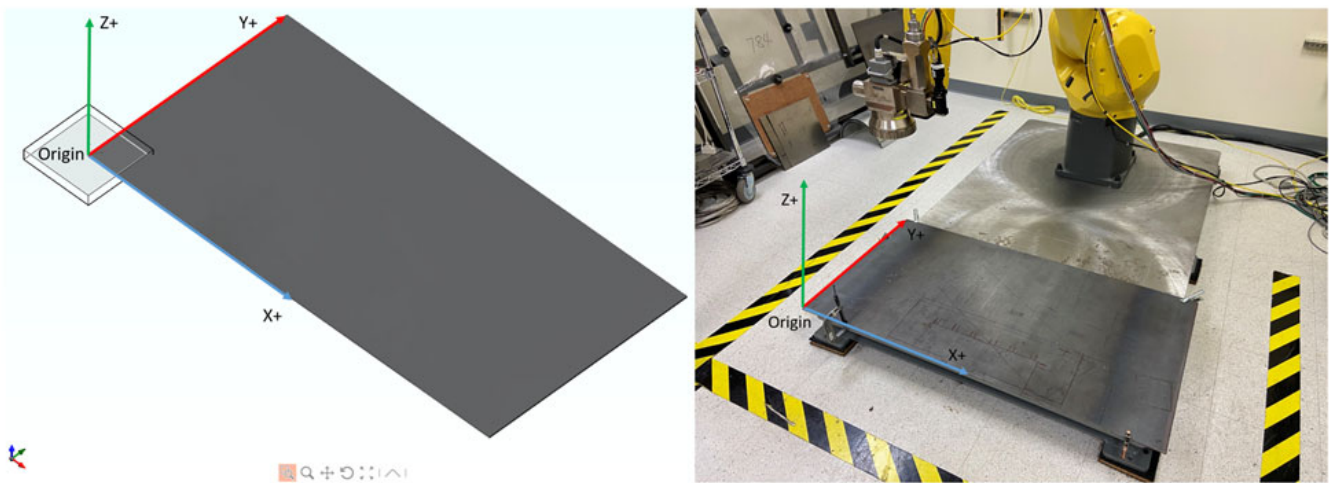

Figure 279: IPGScan and Real World Calibration
- For this demonstration, the IPGScan world was calibrated according to a 1230mm x 610mm piece of sheet metal (see Figure 279), which is the typical working area for this robot setup.